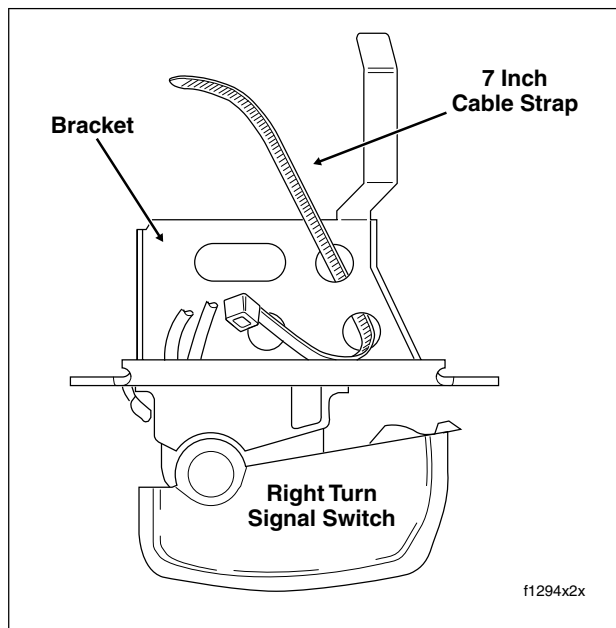

Figure 8-25. Insert Cable Strap in Switch Bracket
4. See Figure 8-25. Insert tapered end of **new** 7 inch cable strap into round hole in turn signal switch bracket and then feed back through using the adjacent hole. Reserve the oblong hole for the bracket screw.